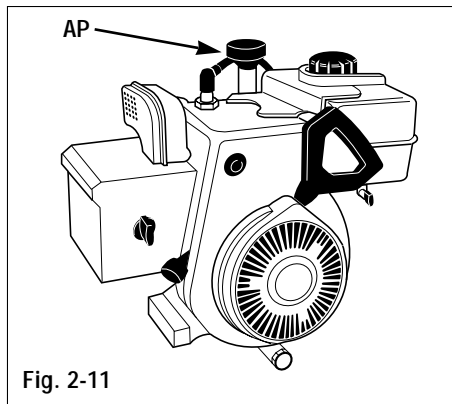

Fig. 2-11
2. To add engine oil, unscrew dipstick (AP, Fig. 2-11). Fill oil at the dipstick opening with fresh oil. See the engine owner manual for correct oil specifications and quantity required. Do not use SAE 10W40.